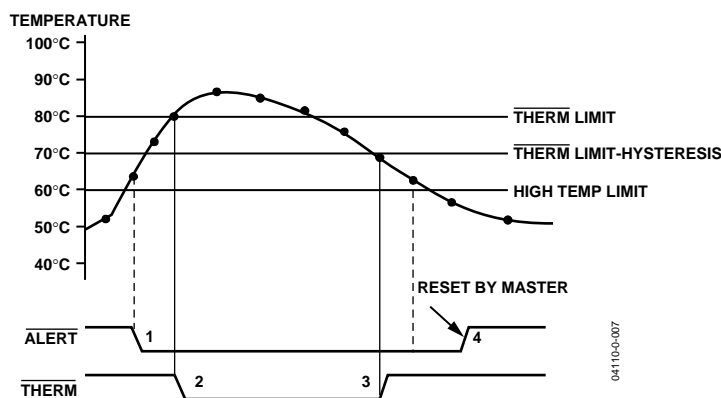

Figure 21. Operation of the  $\overline{\text{ALERT}}$  and  $\overline{\text{THERM}}$  Interrupts
Figure 21 shows how the  $\overline{\text{THERM}}$  and  $\overline{\text{ALERT}}$  outputs operate. A user may wish to use the  $\overline{\text{ALERT}}$  output as a  $\overline{\text{SMBALERT}}$  to signal to the host via the SMBus that the temperature has risen. The user could use the  $\overline{\text{THERM}}$  output to turn on a fan to cool the system, if the temperature continues to increase. This method would ensure that there is a fail-safe mechanism to cool the system, without the need for host intervention.
3. The  $\overline{\text{THERM}}$  output deasserts (goes high) when the temperature falls to  $\overline{\text{THERM}}$  limit minus hysteresis. In Figure 21, the default hysteresis value of 10°C is shown.